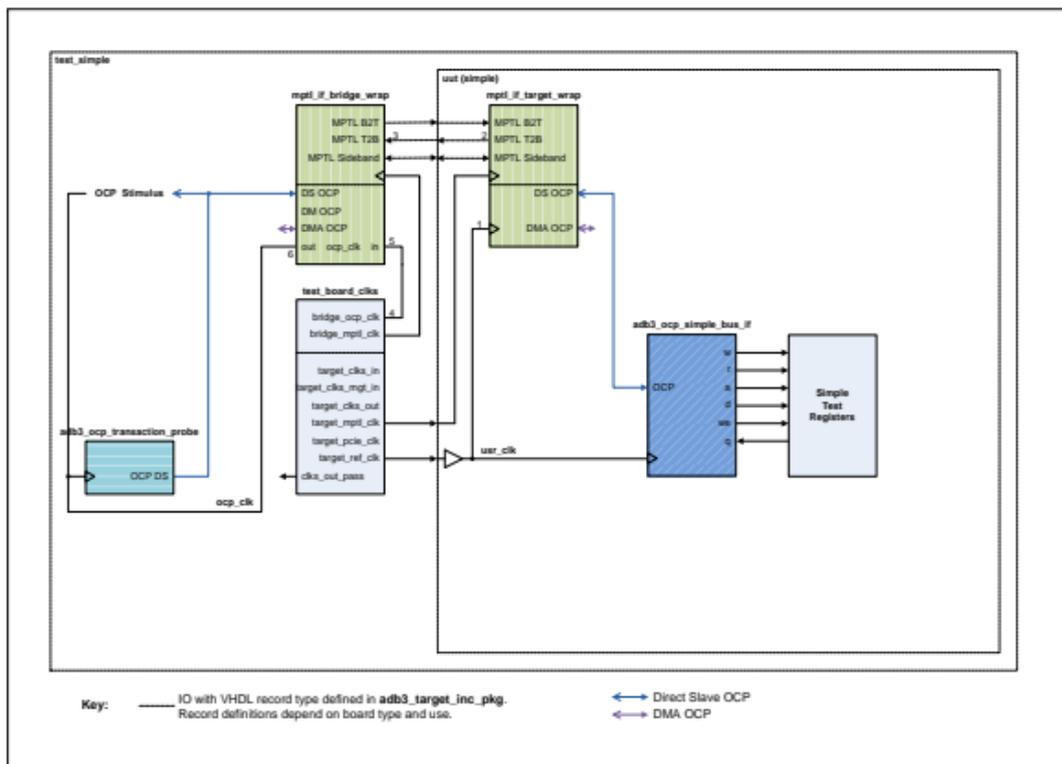

Figure 10: Simple Design Testbench and Top Level Block Diagram (MPTL)
Figure 10 shows the testbench and embedded **simple** FPGA design (MPTL).
- The testbench OCP clock `ocp_clk_out` path is shown in Figure 10 as the route consisting of points 1, 2, 3 and 6.
- The testbench OCP clock `ocp_clk_out` path is shown in Figure 10 as the route consisting of points 4, 5 and 6.